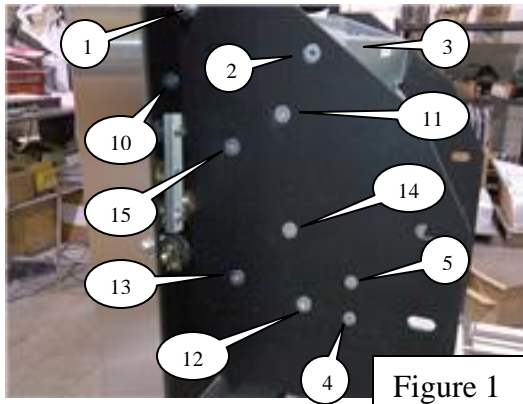

Figure 1
1. Remove bolts #1 and #2 both sides (figure 1), keep for reassembly
2. Remove Top Casting, #3 (figure 1), keep for reassembly
3. Remove Gate Guide #6 (figure 2) by removing bolts #4 and #5 (figure 1), keep for reassembly
4. Remove Outer Gate Guide #7 (figure 2) by removing bolts #10 and #11 (figure 1) keep for reassembly
5. Remove Roller Cam #8 (figure 2) by removing bolts #12 and #13 (figure 1) keep for reassembly
6. Remove Detent Assembly #9 (figure 2) by removing bolts #14 and #15 (figure 1) keep for reassembly